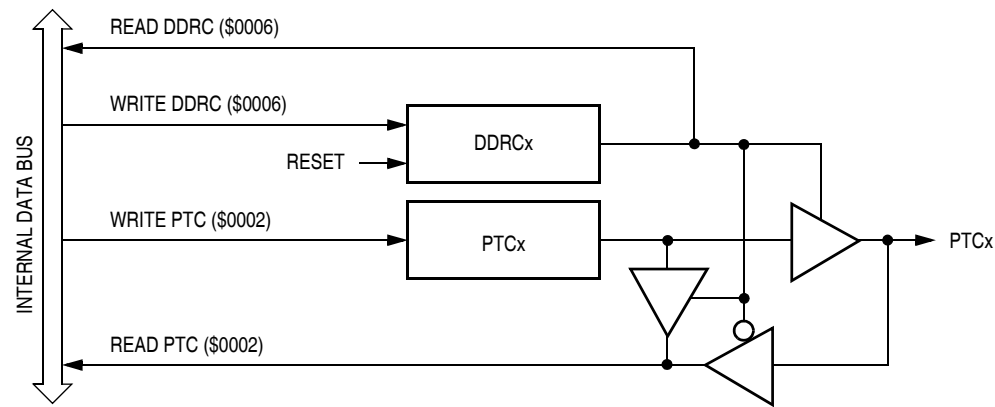

Figure 17-11. Port C I/O Circuit
**NOTE:** Avoid glitches on port C pins by writing to the port C data register before changing data direction register C bits from 0 to 1. Figure 17-11 shows the port C I/O logic.